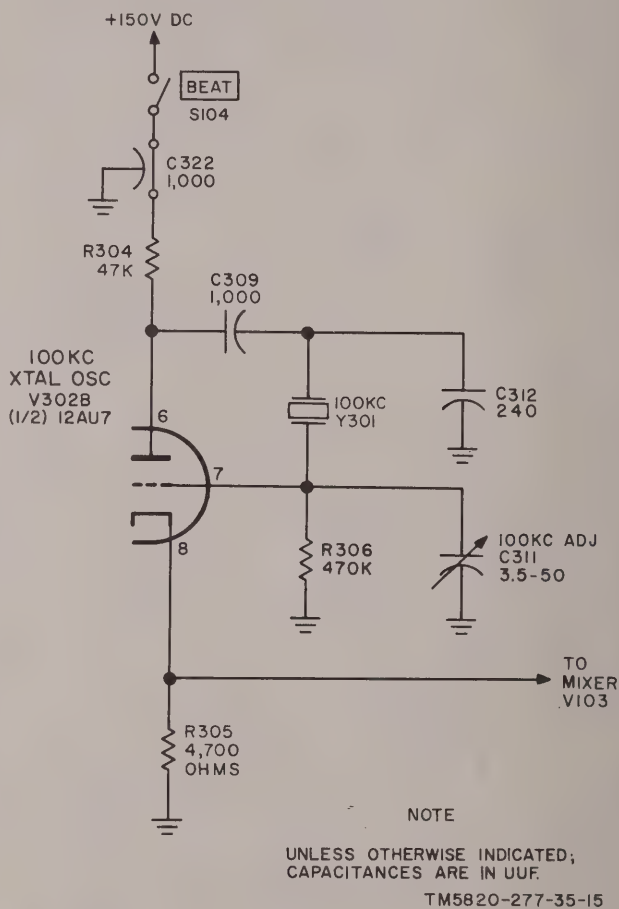

Figure 8. 100-kc crystal oscillator V302B, schematic diagram.
9. 100-kc Crystal Oscillator V302B (fig. 8)